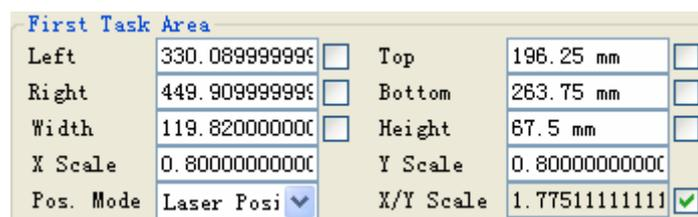

Figure 6-25 Set First Task Area
8. The parameters after setting the first task area likes the Figure 6-25 shows: